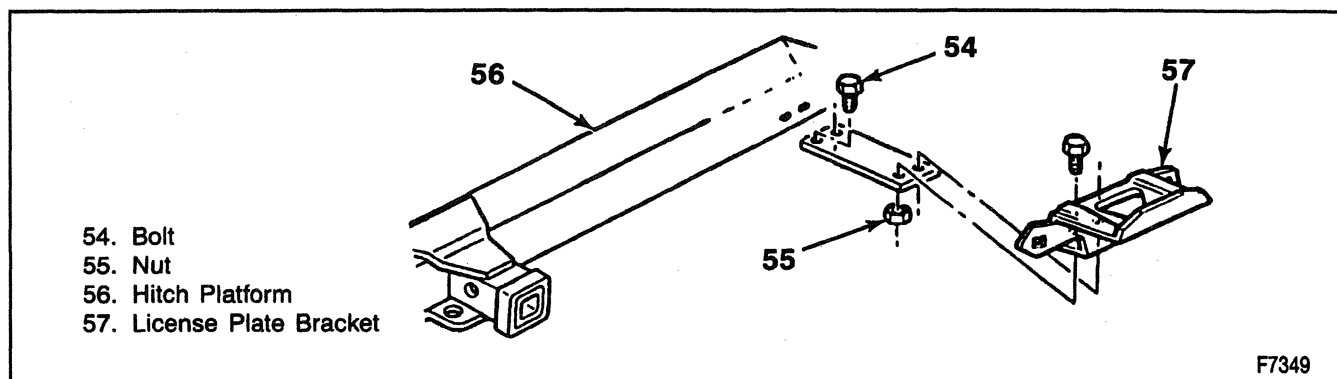

Figure 22—Hitch Platform License Plate Bracket
↔ Remove or Disconnect (Figures 22 and 23)
1. Bracket plate to hitch platform bolts and nuts (Figure 22).
→→ Install or Connect (Figures 22 and 23)